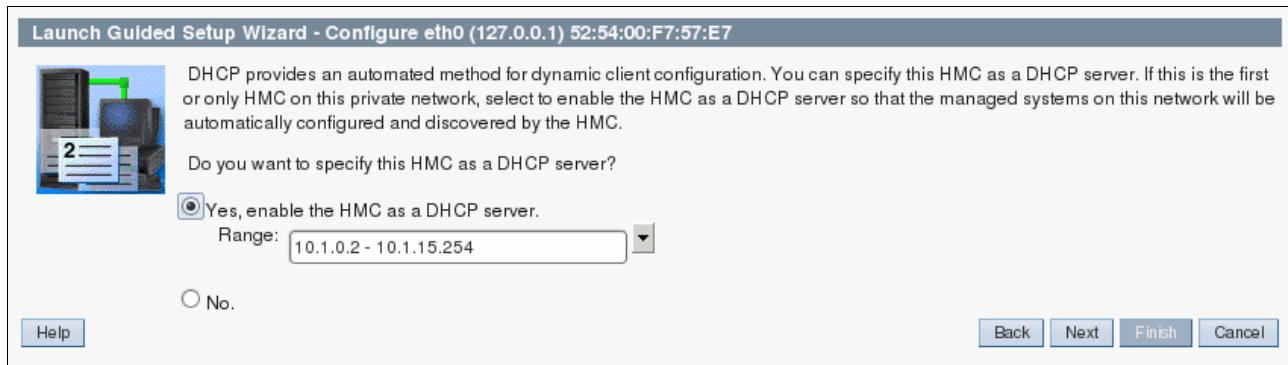

Figure 3-90 Select the range for eth0
19. Select a private IP range in the drop-down list (Figure 3-90), and then click **Next**.